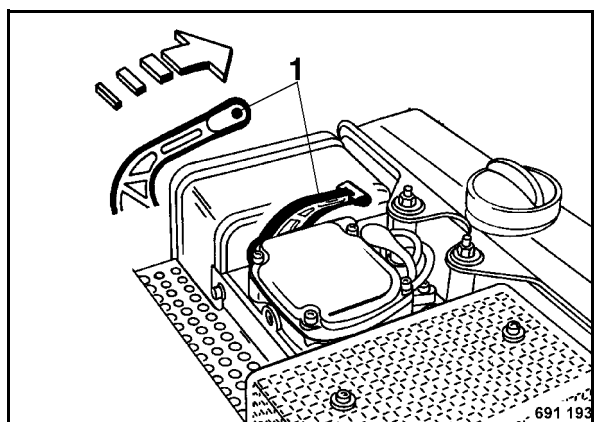

Fig. 57
- Decompression lever 1 (Fig. 57) must be initial position.